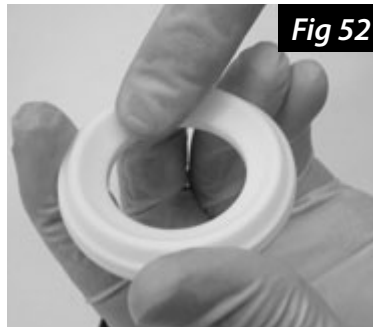

Fig 52
6. Apply a thin coat of vacuum grease around the body seal o-rings and place on the end caps as shown. Apply a thin coat of vacuum grease to the inner radius surface of each Teflon® seat (Fig 52).